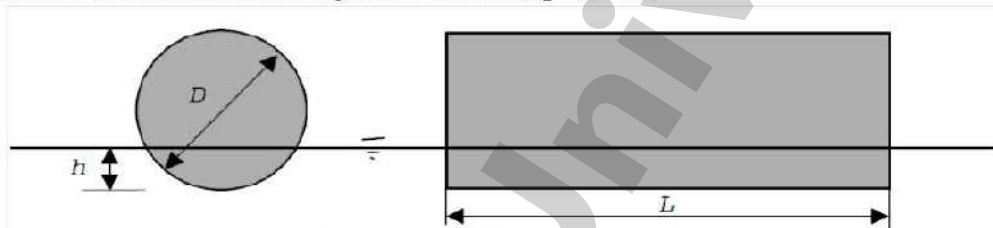

Fig. 3. Cylinder parallel to the water surface.
2. Consider a circular cylinder of homogeneous material of specific gravity, $s = 0.5$, length, L , and diameter, D , stable at the position shown in Fig. 3. Find the formulas for the immersion of the cylinder h at this position.